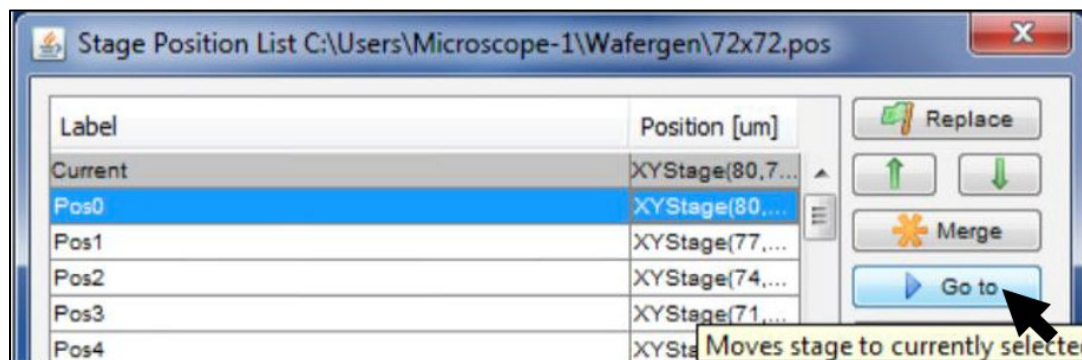

Figure 19. Moving the motorized stage to Position 0.
11. Select the row “Pos0” in the *Stage Position List* window (Figure 19), and then click [Go to] button.